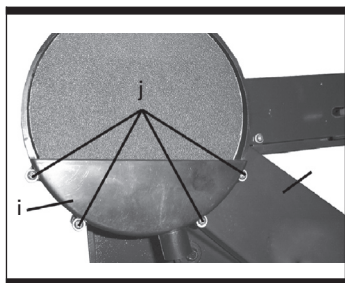

Fig 5
4. Installing disc guard with dust outlet (See Fig 5)
Position disc guard (i) against the lower one-third of the disc, aligning four holes (j) as shown in Fig 5.